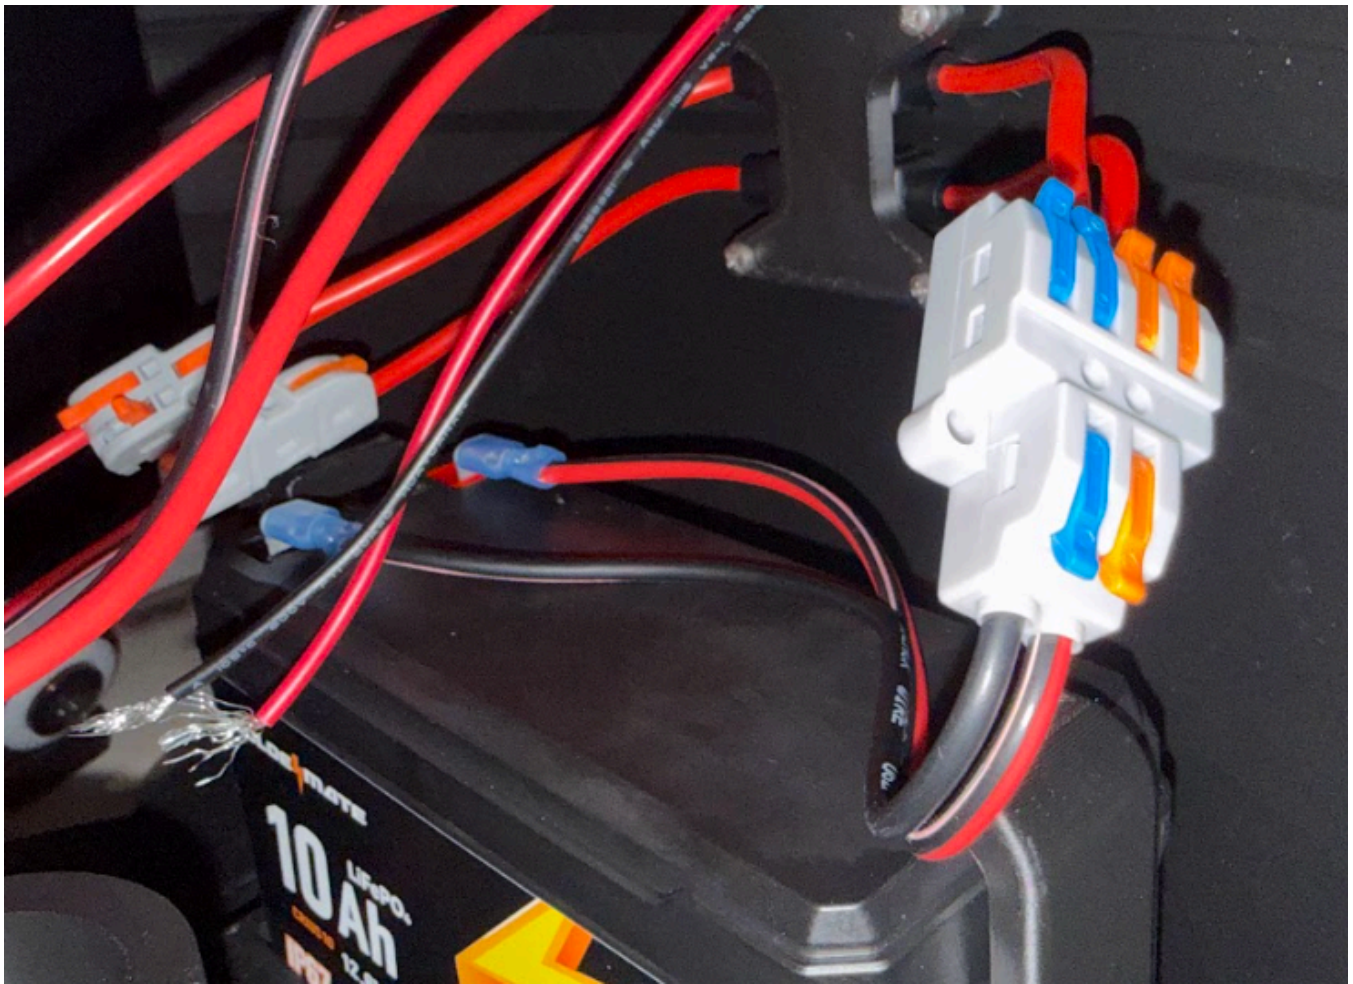

Figure 5.5 - Battery & Fuse Holder Assembly
- iii. Connect red & black wires from Battery to Double Lever Wire Connector as shown in Figure 5.5
- iv. Connect Fuse Holder wires to Double Lever Wire Connector as shown in Figure 5.5
ii. Connect red side of 350mm XT30 wire to Double Orange Lever Wire Connector from step 3-a-5 as shown in Figure 5.5. Connect black side to Double Lever Connector from step 3-a-4 as shown in Figure 5.5. Connect XT30 plug to fuel gauge port on PCB (Port Red-2) as shown in Figure 5.9